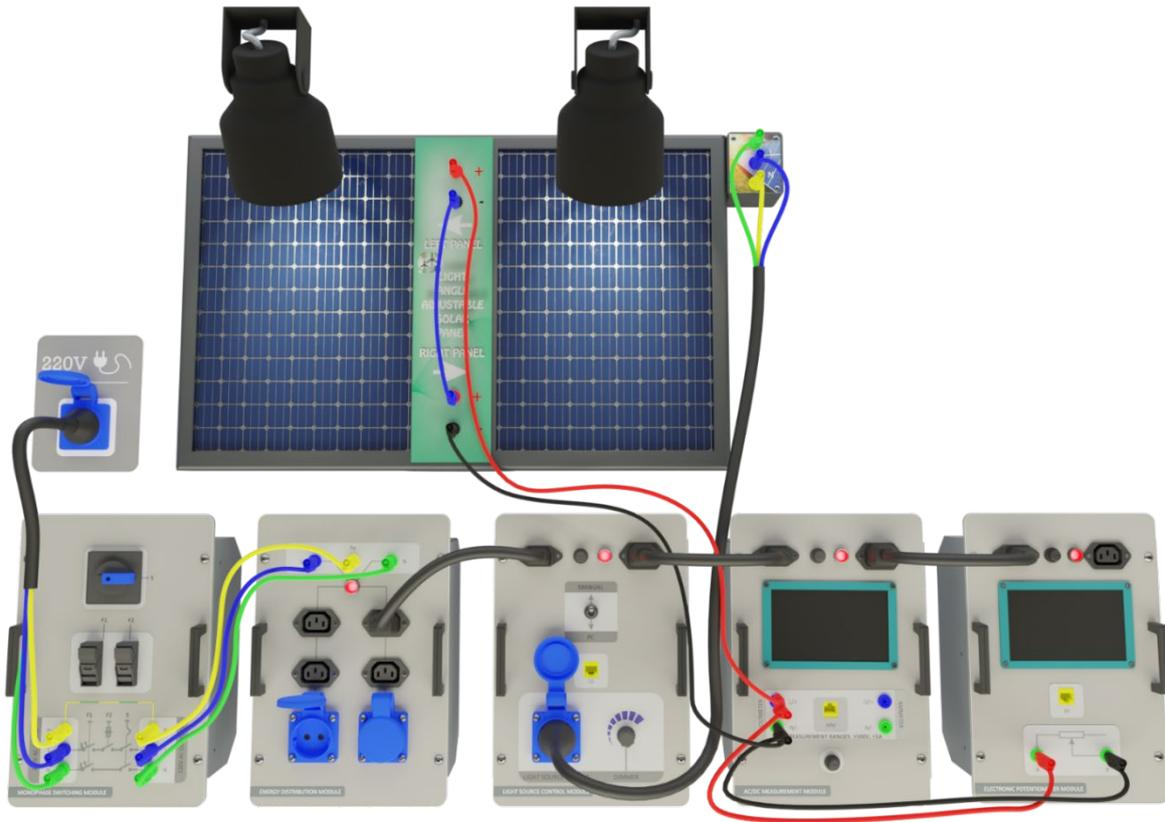

Figure-44. Installation Image of Examination of Shadow Effect in Photovoltaic Panel
1. Set up the connection as specified in Figure-44. Ensure a constant level of light in the laboratory by creating an average scenario. Any alterations to the positions of the lamps or curtains will have an impact on the experimental outcomes.
3. By setting the potentiometer module to 1000Ω , connect to the series connected panel output terminals as shown in Figure-44.